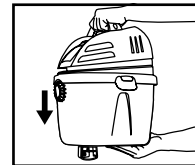

FIGURE 3
8. Install vacuum by aligning groove on either side of tank to engage as the vacuum is lowered onto the wall bracket **FIGURE 3.**